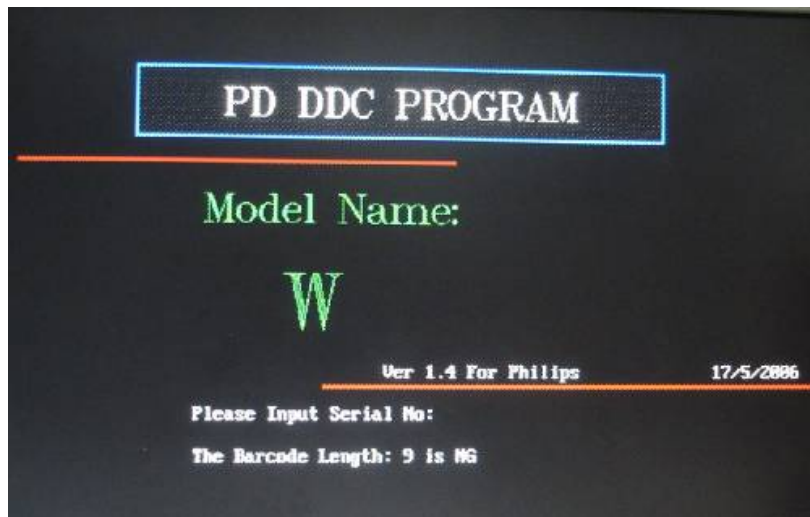

Fig 6
d. And if you incorrectly input, there will appear "The Barcode length: 9 is NG" as shown Fig 6.